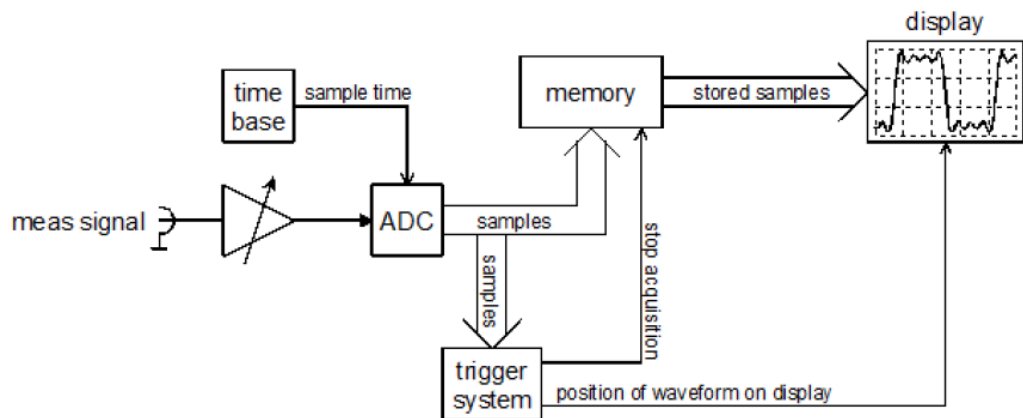

Fig.1-12: Simplified digital trigger setup.
The trigger settings can be used to define the precise conditions under which a trigger should be initiated. The trigger point is set when all of the defined requirements are met by the signal at the same time. The oscilloscope has already continuously acquired data points, which are then used to fill in the pre-trigger portion of the acquisition. Once triggered, the oscilloscope acquires as many samples as required to complete the post-trigger portion, at which point the signal can be displayed on the monitor. Fig.1-12 shows a simplified version of a digital trigger. This type of trigger system works directly with the ADC samples. (5)